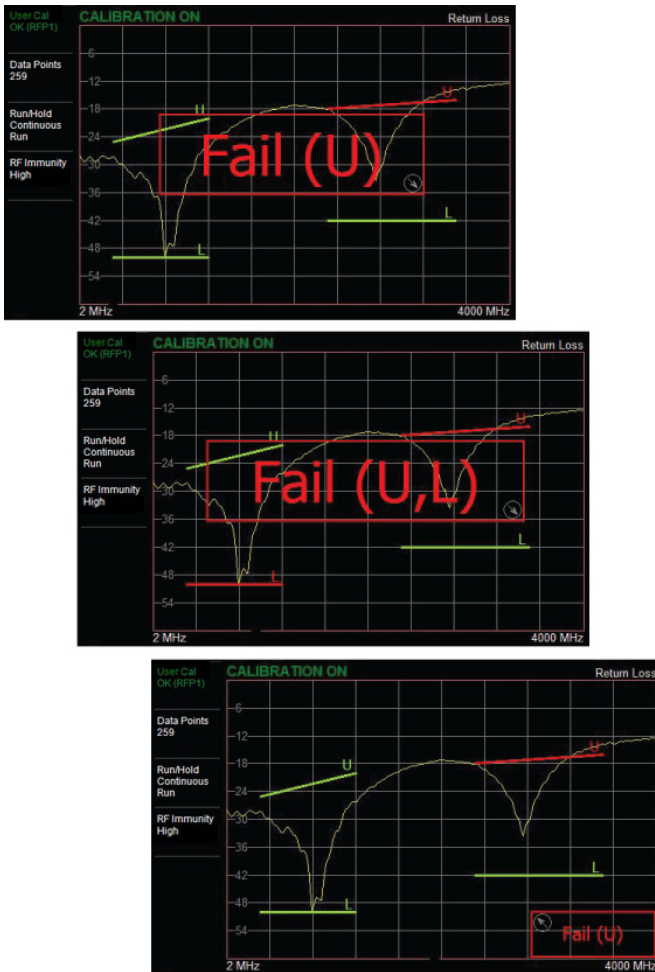

Figure 3-29. Pass/Fail Message Turned On
When set to On, a **Pass** or **Fail** message is displayed. Fail is displayed when the trace crosses or touches a limit line, as illustrated in Figure 3-29. Note that Upper (U) or Lower (L) or both (U, L) are displayed. To change the size and location of the Pass/Fail message, tap the small circled arrow in the lower-right corner of the large format message box. The circled arrow is in the upper-left corner when the message is in small format.